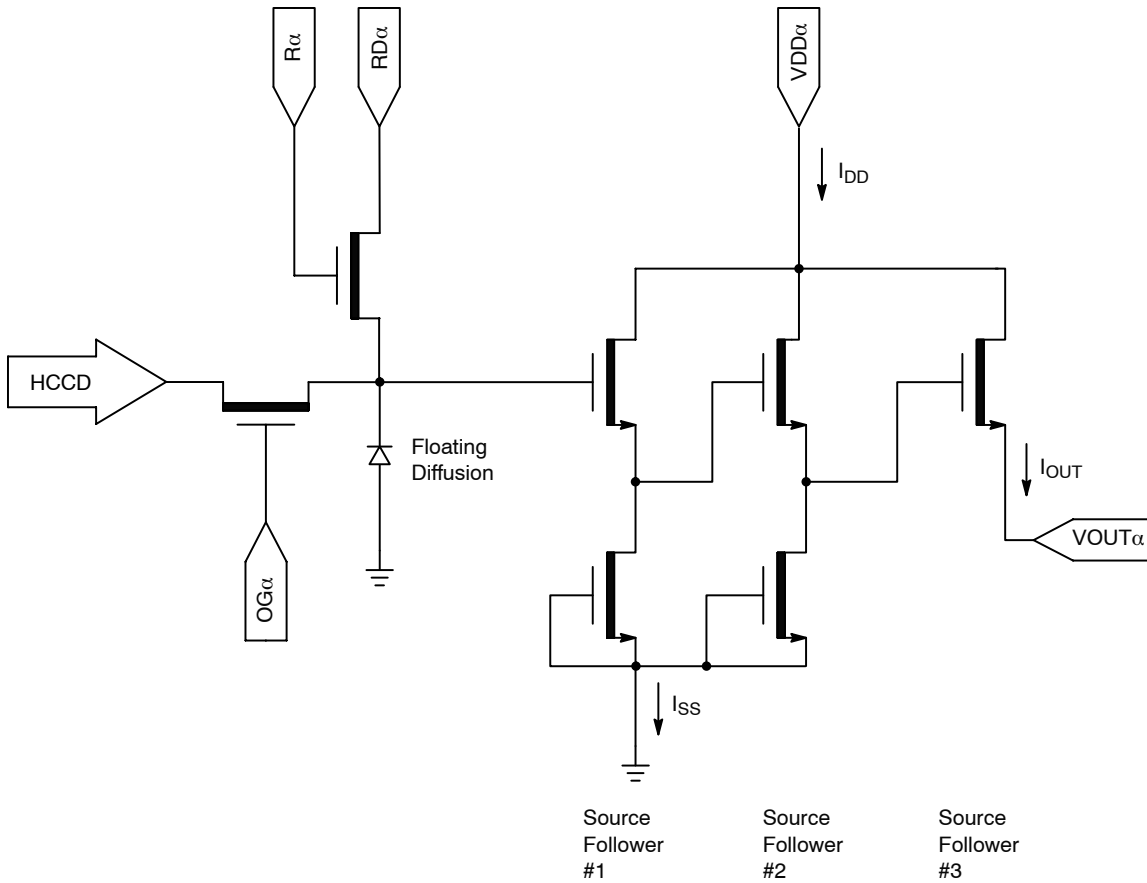

Figure 20. Output Amplifier
- The maximum DC current is for one output. $I_{DD} = I_{OUT} + I_{SS}$. See Figure 20.